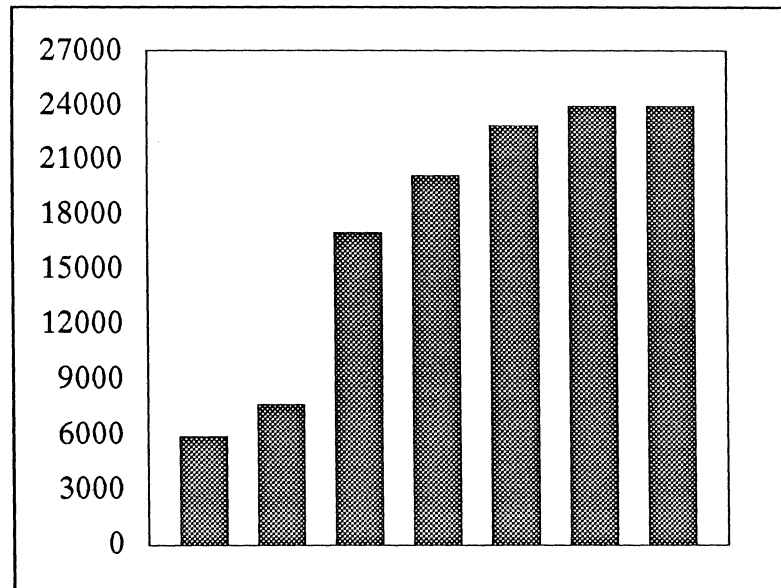

Figure 28-19. Bar chart created from spreadsheet data
- ✓ When the numbers from the spreadsheet appear on the Data sheet, **Apply** the information, and you will see a chart similar to Figure 28-19.